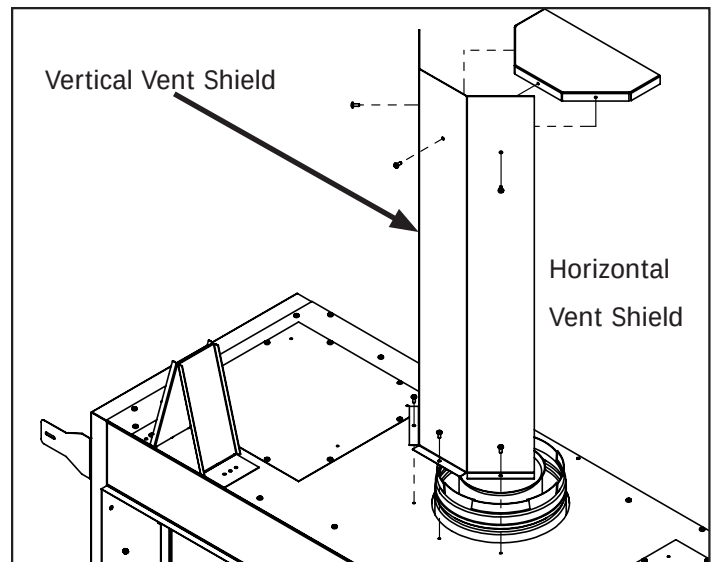

Figure 38. Vent Shielding Install
**IMPORTANT:** All installations must include the vertical vent shield. The horizontal vent shield is only installed if the fireplace is horizontally terminated with the minimum vertical rise of 12". If more than 12" of vertical rise is used in the vent configuration no horizontal shield is needed. See Figure 38 for shield install. Screws are pre-installed in cabinet and horizontal vent shield. Use a T-20 screwdriver or drill driver to remove screws then install shields.